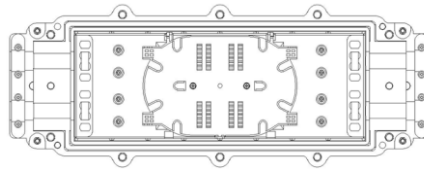

Fig 1
- Open the Splice enclosure as shown (Fig 1)